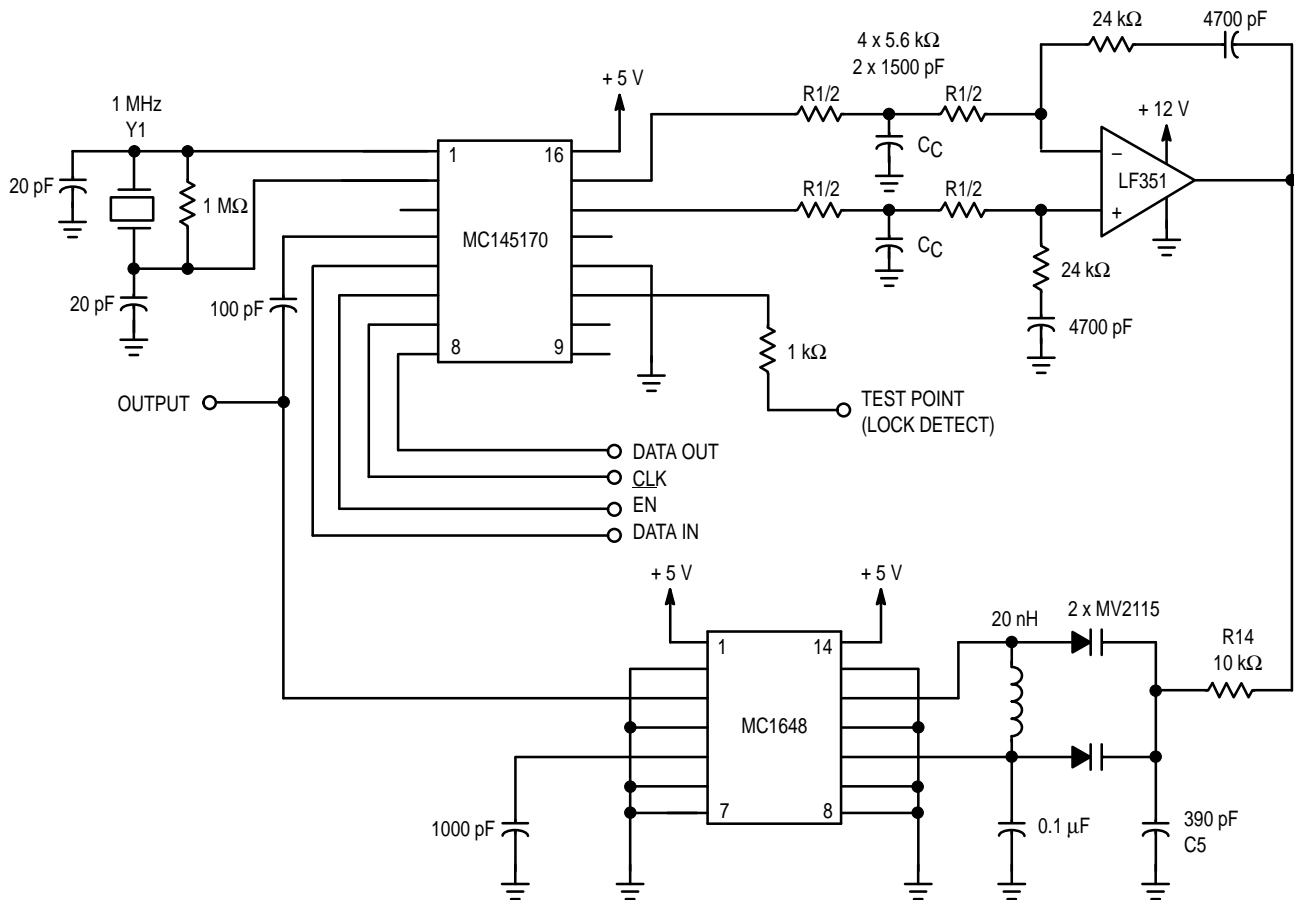

Figure 5. VHF Synthesizer
To illustrate design with the doubled-ended phase detector, the ϕ_R and ϕ_V outputs are used. This requires an operational amplifier, as shown in Figure 5. From the design guidelines shown in the MC145170 data sheet, the following equations are used:
For more demanding applications, extra filtering is sometimes added. This reduces the VCO sidebands caused by a small amount of the reference frequency feeding through the filter. One form of this filtering consists of spitting R_1 into two resistors; each resistor is one-half the value of R_1 , as indicated by $R_1/2$ in Figure 5. Capacitors C_C are added from the
The circuit of Figure 5 may not function at very-high temperature. The reason is that the MC145170 is guaranteed to a maximum frequency of 160 MHz at 85°C. Therefore, there is no margin for overshoot (reference Figure 4) at high temperature. There are two possible solutions: (1) use the MC145170-1 or MC145170-2 which are rated to 185 MHz, or (2) limit the tuning to less than 160 MHz.